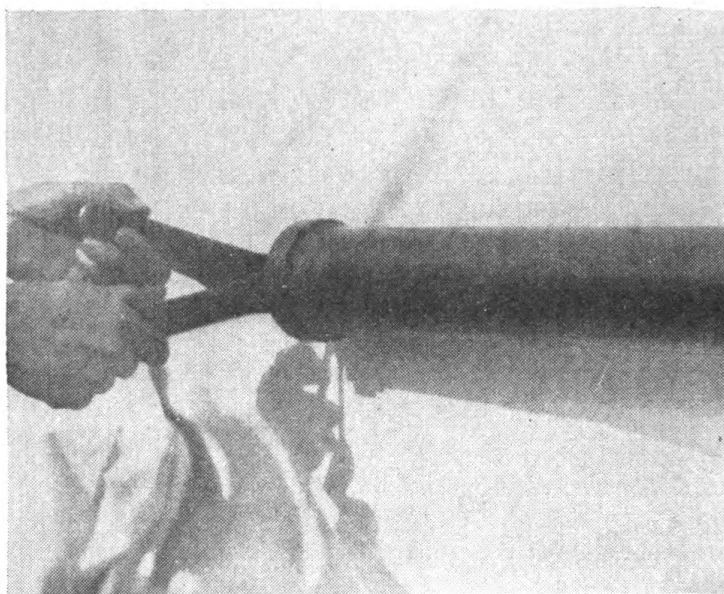

FIGURE 30.—Adjusting equilibrator spring, 37-mm gun.
Q. How is the equilibrator spring adjusted? A. Adjustment is made by increasing or decreasing the tension of the spring by turning the nuts on the equilibrator rod. Two special wrenches are provided for this purpose. The tension is varied until the elevating mechanism operates smoothly (fig. 30).
- (1) Use the proper tool to avoid damaging the part.
- (2) Do not remove parts except for essential training, for care and lubrication, or for necessary replacement of parts.
- (3) Parts not specifically mentioned in this section should not be removed except by thoroughly qualified personnel.